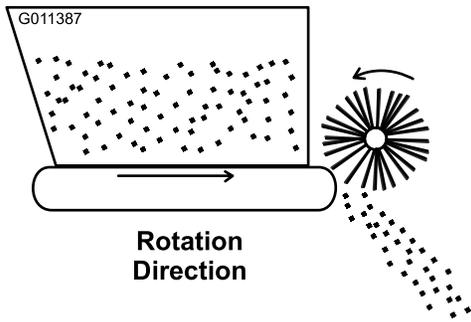

Figure 19
3. Move the remote-hydraulics lever of the vehicle to the RUN position. The belt and brush should rotate as shown in Figure 19.